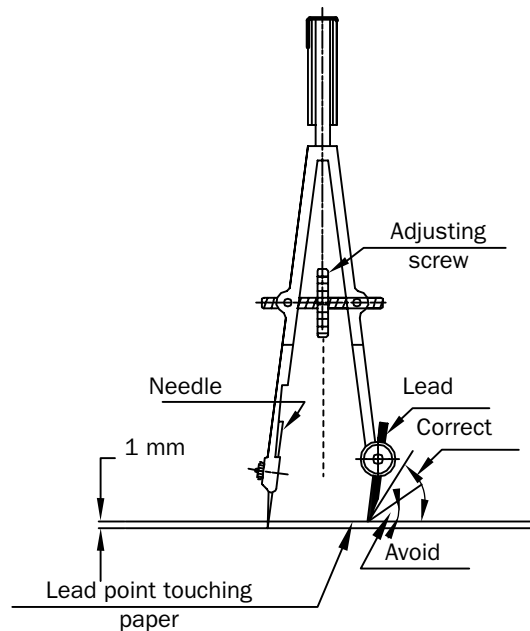
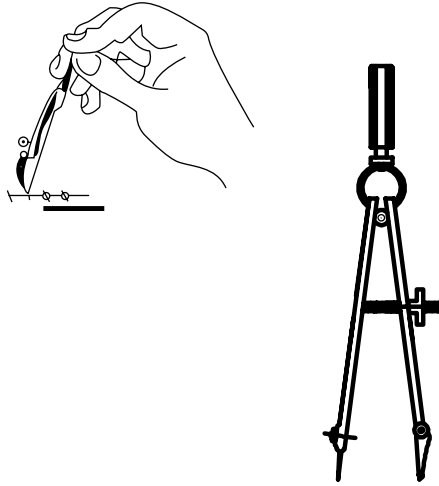

Fig. 1.6 Small bow compass with knurled nut at its centre
Fig. 1.7 Small bow compass with adjusting nut on one side
- **Small Bow Compass:** It is used for drawing small circles of radius up to 25 mm. This operates on the jackscrew principle by turning a knurled nut at its centre, as shown in Fig. 1.6. In some designs the adjusting nut may be on one side of the compass, as shown in Fig. 1.7.